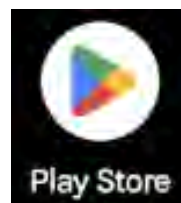

Figure 2-1
1. Visit the Android Play Store by starting the Play Store application on your android device. (Figure 2-1)